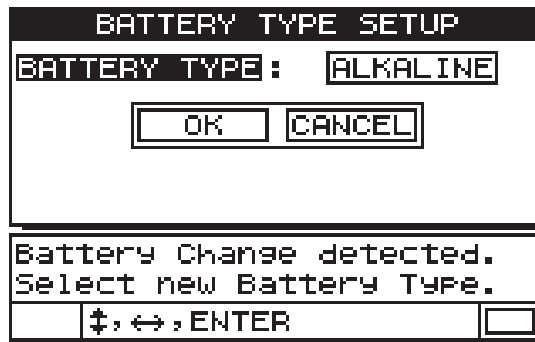

Figure 2-3 Selecting the battery type
11. To answer the battery type setup question displayed at the bottom of the screen, use the right or left arrow keys, and then press [ENTER] (see Figure 2-3 on page 34):